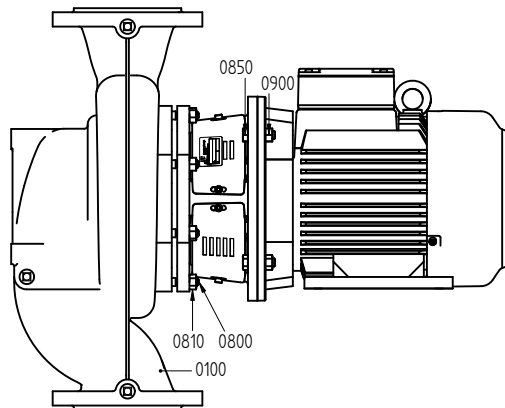

Figure 5: Disassembling the Back-Pull-Out unit.
- 1 Loosen the fastening nuts (0810) of the lantern piece, see figure 5.